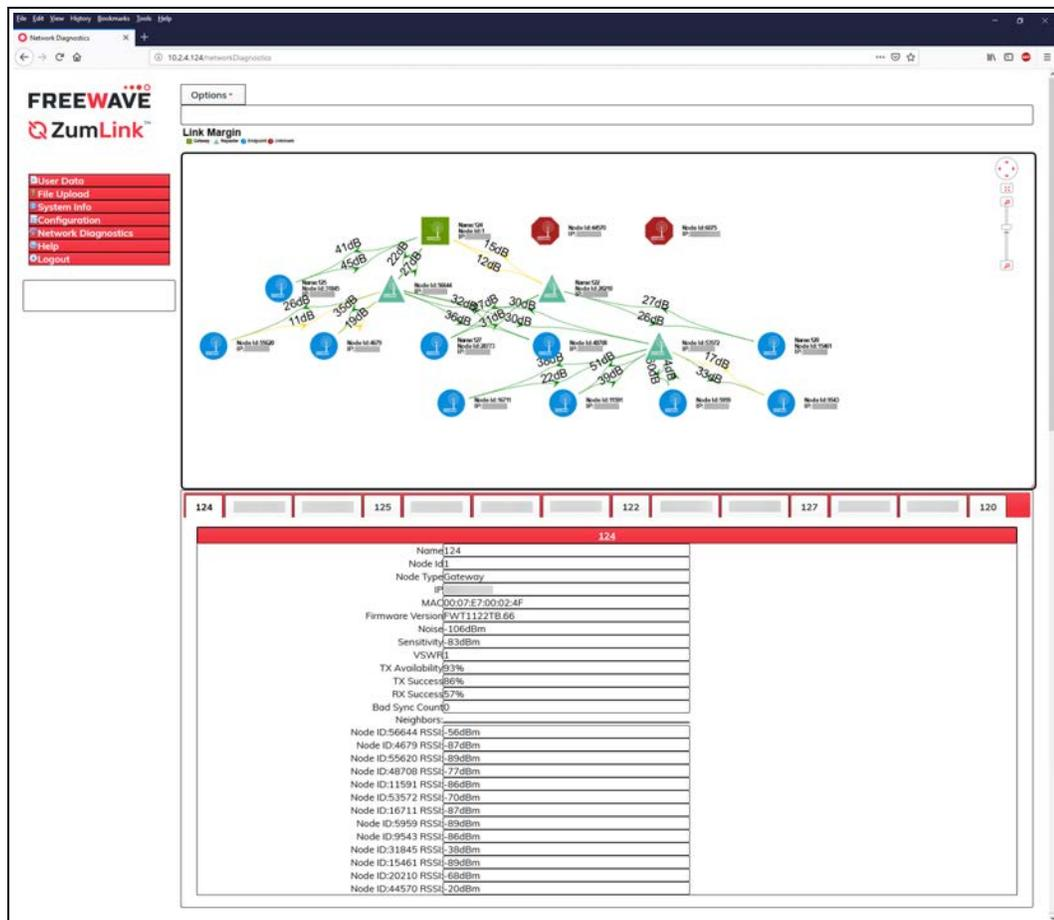

Figure 188: Network Diagnostics window with Show Tables Selected
6. In the **Options** list box, select the **Show Table** option to view the radio connection table of the selected device below the **Network Diagram**. Figure 188